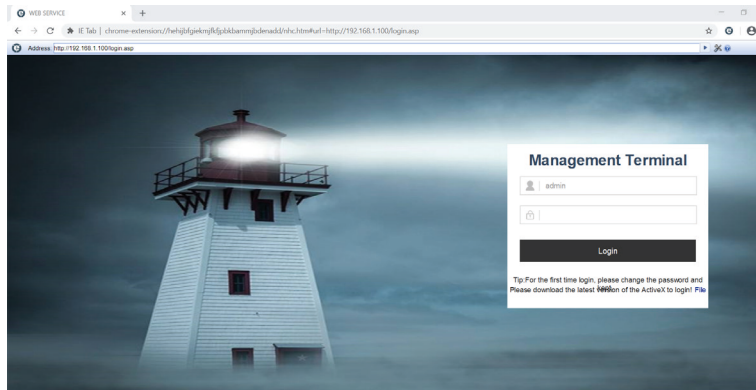

Fig.10
- Start Chrome browser - activate previously installed IE Tab plug-in (see section 4.6) and enter the address in the IE Tab address bar: 192.168.1.100 which should open the login screen again (Fig.10).